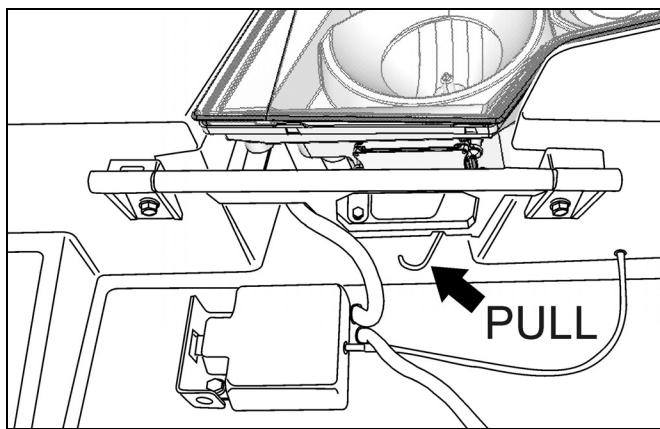

FIGURE 2: ROCKING THE HEADLIGHT ASSEMBLY
3. Pull on the rod shown in figure 2 to pivot the headlight assembly.